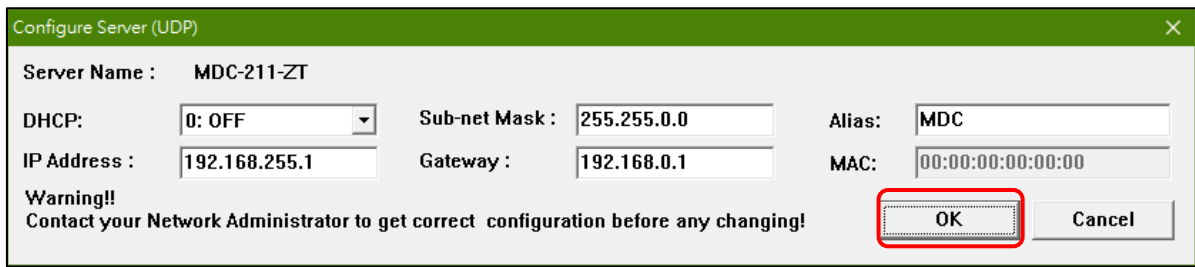

Figure. 2.3 Network parameter setting interface
Step 3 Configure the network parameters in the pop-up settings window, and click "OK" button to modify the network settings, as shown in Figure 2.3.